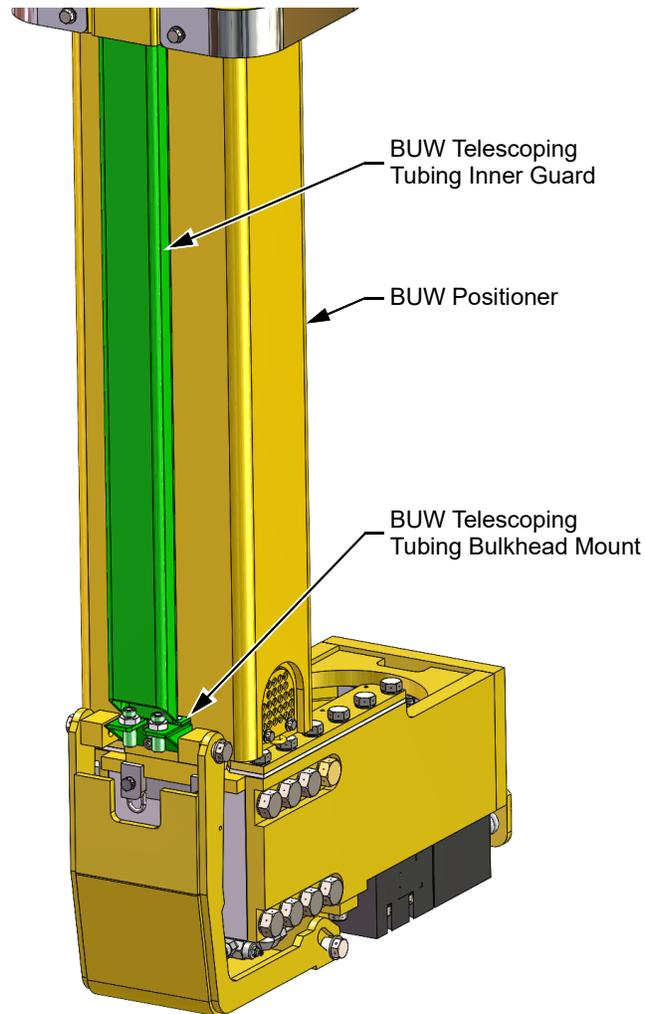

Figure 3: BUW Telescoping Tubing Inner Guard & Bulkhead Mount
4. Remove the BUW telescoping tubing inner guard with BUW bulkhead mount from the BUW positioner shown in Figure 3.